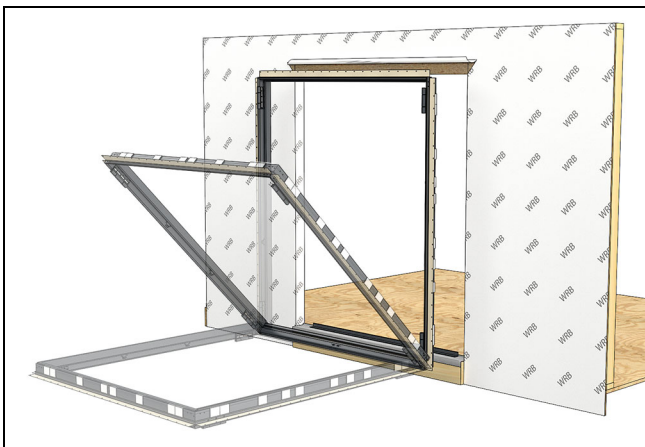

Figure 34
2. Tip the frame into place. See Figure 34.